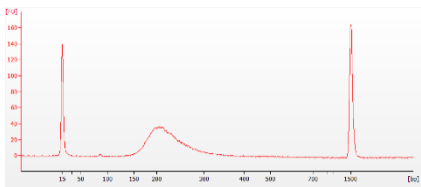

Figure 2 Agilent 2100 Bioanalyzer Fragment Size Distribution Results of the Purified PCR Product
- 3.9.2 Assess the fragment size distribution of purified PCR products with electrophoresis-based equipment such as a Bioanalyzer, Tapestation (Agilent Technologies), LabChip® GX, GXII, GX Touch (PerkinElmer), or Fragment Analyzer™ (Advanced Analytical). Figure 2 shows the final size distribution is 150 bp-300 bp.